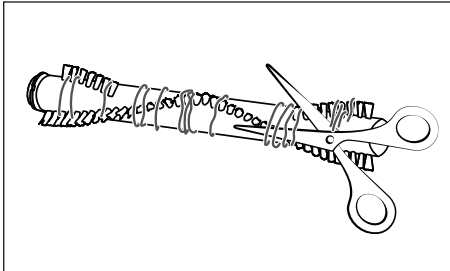

Fig. 26
- 4) Cut threads and hairs along the bristles of the rotary brush 21 with scissors (see Fig. 26). Remove threads and hair from the rotary brush 21.